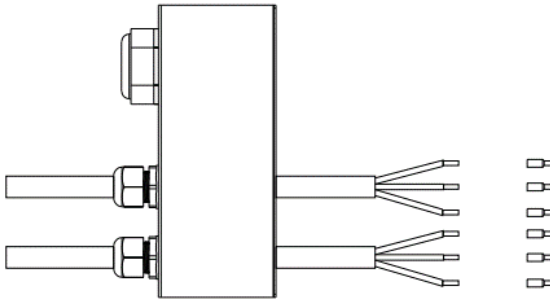

Fig. 6.3.2.2
- ④ Fix the terminals in Fig. 6.3.2.2 to the EPS terminal on the housing in Fig. 6.3.2.1 by the screws (freely provided) (three AC terminals at left side), and L, N, PE correspond to L, N, PE on the housing.